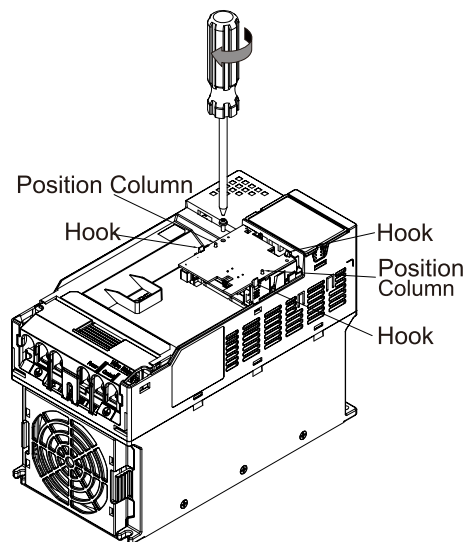

Figure 8-18
5. Assemble the option card: Have the terminal block and connector of the option card face downward, aim the two holes of the option card to the position column and press downward so that the three clips engage the option card. Make sure that three clips properly engage the option card and then tighten the screws (suggested torque value: 4–6 kg-cm / (3.5–5.2 lb-in.) / (0.39–0.59 Nm), as shown in Figure 8-18.